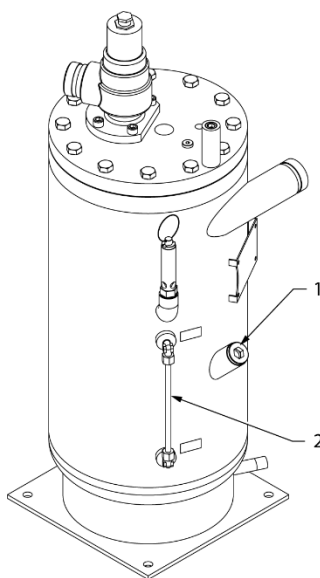

Figure 4-4
- The oil level should be checked at each pause in operation and at regular intervals using the oil level gauge (-2- Fig. 4-4) on the oil reservoir.
- Close the oil filler cap (-1- Fig. 4-4) firmly.
- Check the oil level in the oil reservoir (also see section 4.6, figure 4-4).